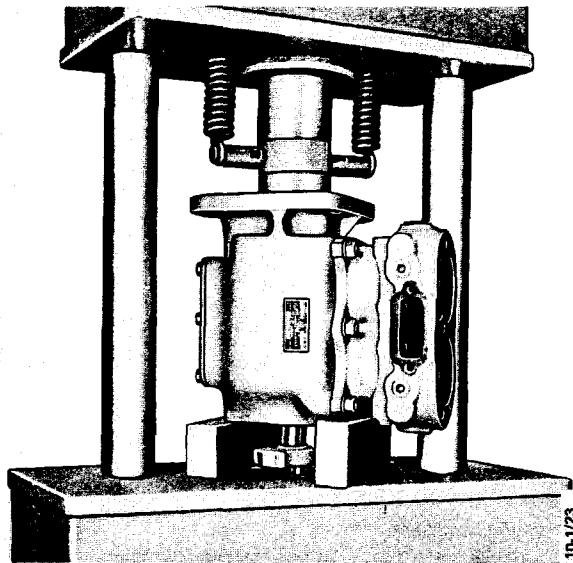

Fig. 2
38. Undo the nut and press the crankshaft out towards the rear (Fig. 2).